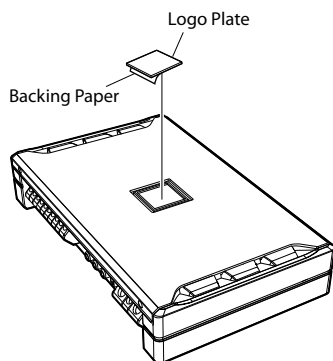

Fig. 4
2. Peel the backing paper from the Logo Plate, then attach it to this unit in your desired direction. (Fig. 4)